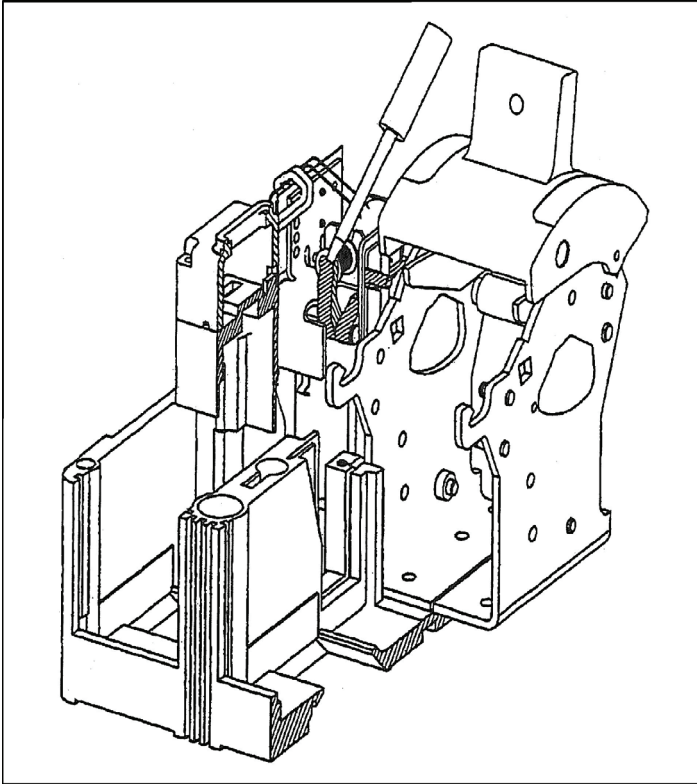

Fig. 2-5. Screwdriver Depressing Undervoltage Release's Solenoid Plunger
b. Mechanical check. Using a small flat-blade screwdriver, (Fig 2-5), push in and hold solenoid plunger. Switch circuit breaker to ON. Release solenoid plunger and check that circuit breaker trips.
c. Reset circuit breaker handle and check that handle arm moves reset lever (Fig. 2-5) to reset the solenoid plunger.